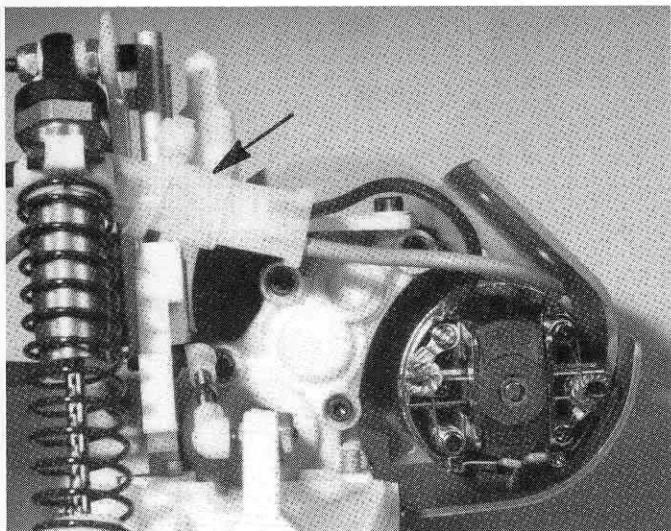

Fig. 146
□ **Fig. 146** Turn the car switch off for a moment. Now plug in the motor to the speed control plug of the electrical system. Take a small wire tyrap and secure the plug to the wing tube with it. This will keep the wires away from the tires. Now make sure that the rear of car cannot touch the ground. Turn the car back on and slowly activate the throttle. Check for proper rotation of the axles then check for proper throttle operation. Now check the brake operation by moving the throttle arm in the reverse direction. If the brakes activate properly then you have everything setup correctly. Now turn the car switch off then the radio transmitter and you will need to unplug the battery pack from the electrical system as your final step. Your electrical system is done.